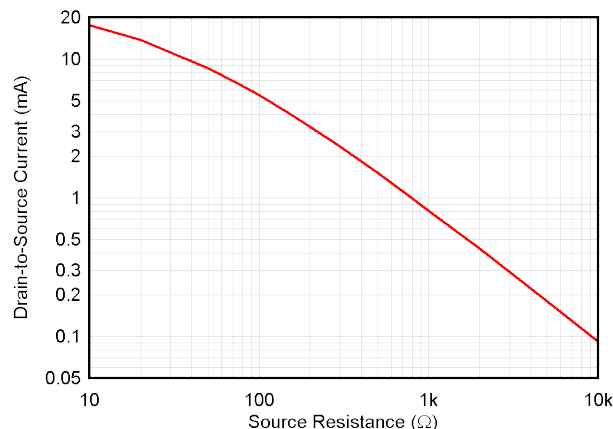

Figure 9-3. Drain-to-Source Current vs R_S , $V_{DS} = 5 \text{ V}$
Generally, higher gain results in improved noise performance. Gain increases as the bias current is increased as a result of increasing g_m (see Figure 6-4). As a result, the input-referred noise decreases as bias current is increased (see Figure 6-9). Any JFET design must make a tradeoff between current consumption and noise performance. The JFE150, however, delivers significantly lower noise performance than most operational amplifiers at the same current consumption. The bias current (I_{DS}) is set by the value of the source resistor, R_S , and the threshold voltage, V_T , of the JFE150. Figure 9-3 is a graph showing nominal I_{DS} vs R_S .
R _S	Source resistor. Used to set bias of JFET; see 图 9-3. Resistor thermal noise directly impacts noise performance.
- The JFE150 bias current is set by selecting the desired bias current and noise tradeoff (see Figure 6-11). The input-referred noise is dominated by the JFE150 bias current and gain. To set the bias current point, adjust the source resistance according to Figure 9-3.